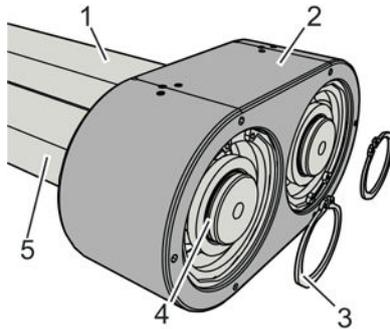

Fig. 131: Positioning the outer retaining rings
3. ➔ Insert the outer retaining rings (Fig. 131/3) into the grooves (Fig. 131/4) of the cutter block shafts (Fig. 131/1, 5).
4. ➔ Set the lower bearing housing (Fig. 131/2) with the cutter block shafts (Fig. 131/1, 5) upright so that it is securely standing on a level subsurface.